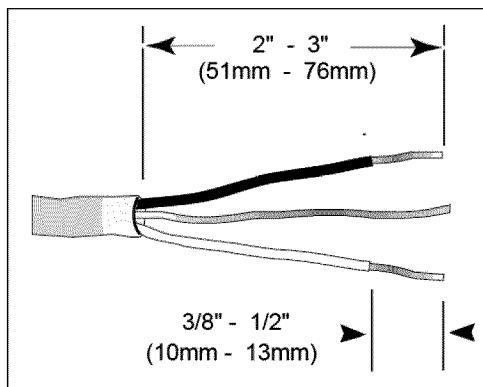

Figure 7
2. Remove 2" to 3" (51 – 76 mm) of the outer casing of the household or field supply wiring as shown in **Figure 7**. Remove 3/8" to 1/2" (10 – 13 mm) of the insulation from each wire as shown in **Figure 7**.